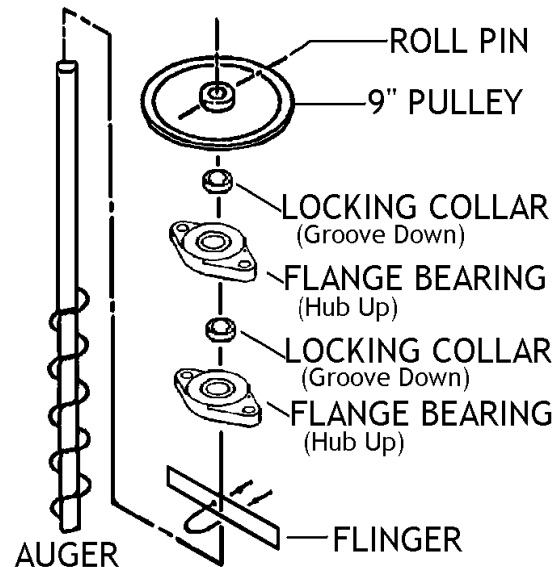

Figure 37 - Down Auger Assembly
97 Bolt flinger to auger just above auger flighting using 5/16" x 1-3/4" U-Bolt and 5/16" nuts and tighten using 1/2" wrench. **Figure 37.**
- 9" pulley (hub up). **Figure 37.**
99 Attach 9" pulley to top of auger shaft by inserting 5/16" rollpin in hole provided on shaft. **Figure 37.**